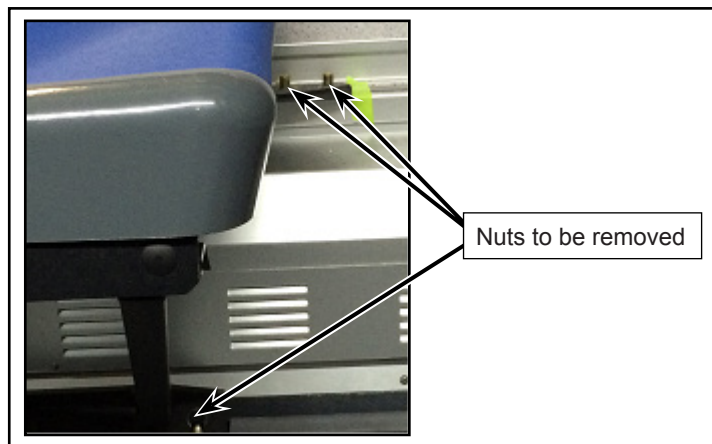

Figure 13 - Typical View of Seat Bracket Disassembly
2.1.6. Remove and retain nuts attached to upper and lower seat brackets with a 9/16" (14mm) socket (see Figure 13).